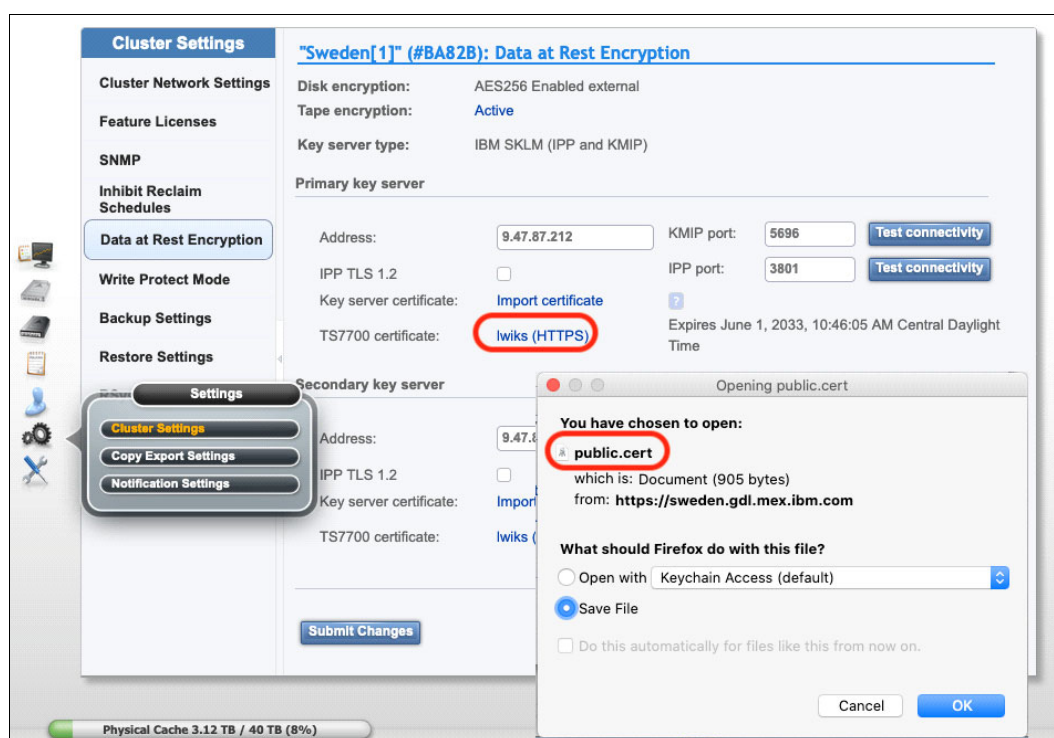

Figure J-11 Downloading the TS7700 HTTPS certificate
2. Click the **lwiks (HTTPS)** hyperlink to download the LWIKS certificate, as shown in Figure J-11. This hyperlink is visible for the following instances only:
If you obtained the TS7700 certificate by using the method that is described in "Downloading a copy of the LWIKS certificate" on page 1040 (see Figure J-11 on page 1041), the downloaded LWIKS public certificate features a \*.cert extension. However, IBM Security Guardium Key Lifecycle Manager can upload certificates with the \*.cer extension only.